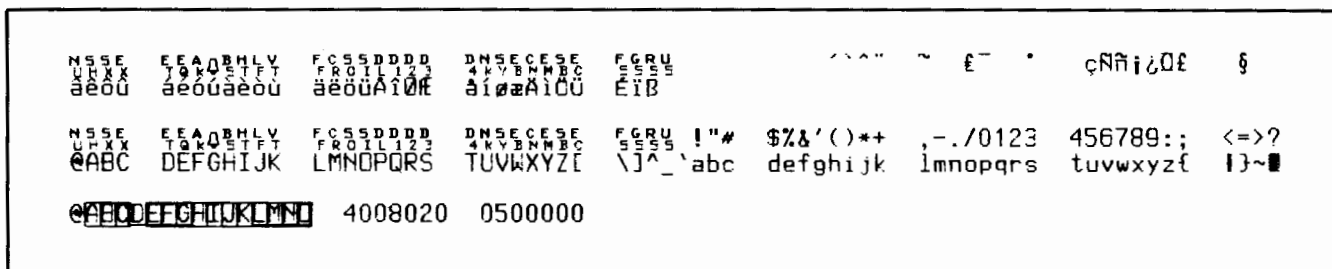

Figure 8-1. Screen Test Pattern, Standard Terminal
5. Displays the test pattern shown in figure 8-1 or 8-2 (depending on whether you have the optional Line Drawing or National character sets).